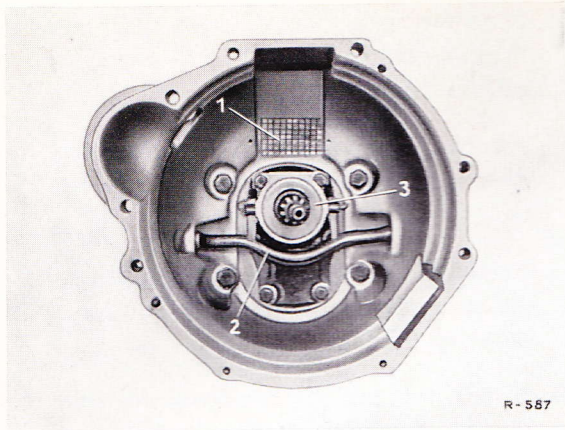

Fig. 25-1/7
17. Check the graphite ring of the clutch throw-out bearing to see if it is still serviceable (Fig. 25-1/7).